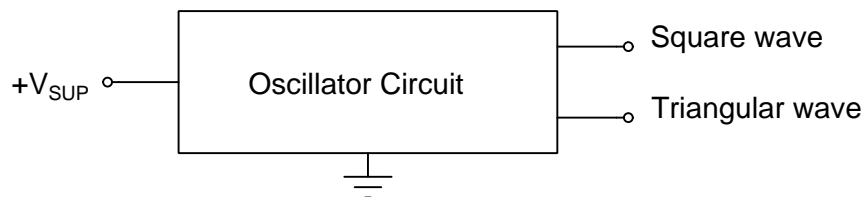
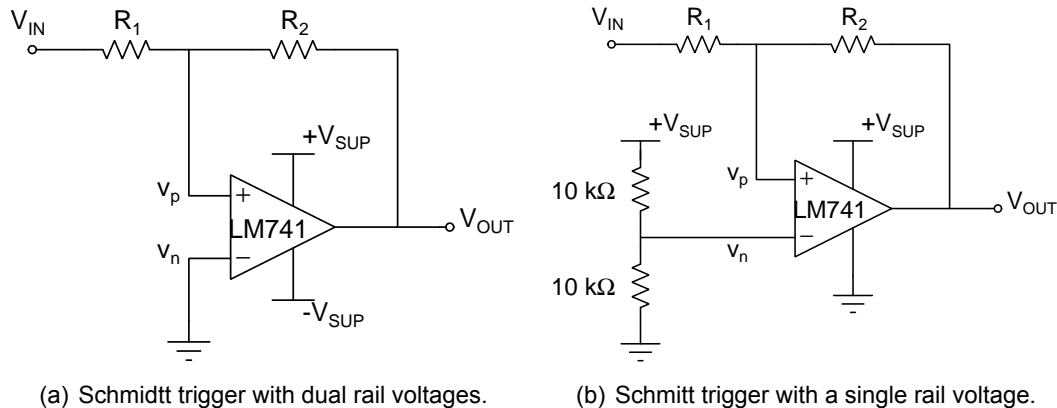
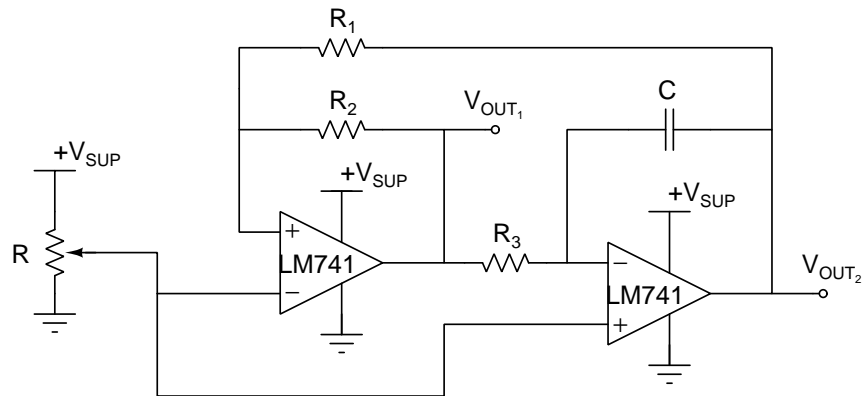

Figure 1: Block diagram of the oscillator circuit showing the inputs and outputs.
Figure 2: Schmitt trigger circuit using an Op Amp with positive feedback.
Figure 3: Oscillator circuit using a Schmitt trigger and an inverting integrator.
Two LM741 Operational Amplifiers (OpAmps) are used to produce an oscillator. A block diagram, showing the inputs and outputs, is shown in Figure 1. The input to the circuit is a DC voltage of $+V_{SUP}$. The output of the circuit consists of a $\sim 10 V_{pp}$ square wave and a $\sim 5 V_{pp}$ triangular wave. The oscillator is formed by connecting the output of a Schmitt trigger, shown in Figure 2, to the input of an inverting integrator (see Lab #4), and then connecting the output of the inverting integrator back to the input of the Schmitt trigger. The complete oscillator circuit is shown in Figure 3.
1. There are many ways to implement a Schmitt trigger. One method uses an OpAmp configured with positive feedback as shown in **Figure 2(a)**, for a dual-rail OpAmp, and **Figure 2(b)** for a single-rail OpAmp. In these circuits, the output of the OpAmp (V_{OUT}) is connected through resistor R_2 to the **non-inverting** input (v_p) of the OpAmp. This results in an amplifier circuit with positive feedback.
Assume the OpAmp in **Figure 2(b)** is ideal. Analyze this circuit and derive an equation for the two trigger levels in terms of the resistor values R_1 and R_2 . When $R_1 = 3\text{ k}\Omega$ and $R_2 = 12\text{ k}\Omega$, calculate the trigger levels that cause the output to switch from zero to $+V_{SUP}$, and from $+V_{SUP}$ to zero, and
2. For the Schmitt trigger circuit in **Figure 2(b)**, determine values for resistors R_1 and R_2 so that the separation of the Schmitt trigger levels are $5 \pm 0.25\text{ V}$. Assume the OpAmp is ideal and $+V_{SUP} = 12\text{ V}$. With the chosen values of R_1 and R_2 , what are the two Schmitt trigger levels?
3. Simulate the transfer function of the Schmitt trigger circuit in **Figure 2(b)** with the resistor values you calculated in **item 2**. Set the power supply voltage ($+V_{SUP}$) to 12 VDC , and the input voltage (V_{IN}) to a DC voltage source. Use DC analysis to sweep the input voltage between 0 to 12 V . A MATLAB® file for NGspice is available at https://ece214.davidkotecki.com/docs/Matlab/ECE214_2022_Lab5_Schmitt.m. Analyze the simulated behavior of the circuit using both the ideal OpAmp and the LM741 OpAmp.
5. Describe the function of the circuit shown in Figure 3. Assume the variable resistor is set to the mid-point resistance. Sketch the shape of the expected output signals V_{OUT1} and V_{OUT2} as a function of time.
8. Perform a transient simulation of the circuit of Figure 3 using the Ideal OpAmp. What is the simulated value of the oscillation frequency? What is the duty cycle? A MATLAB® file for NGSpice is available at https://ece214.davidkotecki.com/docs/Matlab/ECE214_2022_Lab5_Osc.m.
9. Perform a transient simulation of the circuit of Figure 3 using the LM741 OpAmp. Since the OpAmp is not ideal, the value of R_3 you calculated may be off by as much as 20%. Adjust the value of R_3 to produce an oscillation frequency of 1.5 ± 0.1 kHz.